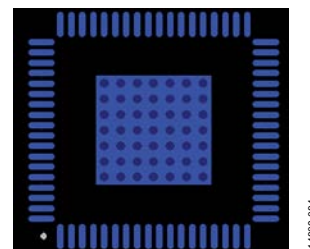

Figure 87. Exposed Pad Layout Example—Top View
- Place vias such that all layers of copper are connected, allowing for efficient heat and energy conductivity. For an example, see Figure 87, which shows 49 vias arranged in a 7 × 7 grid in the pad area.